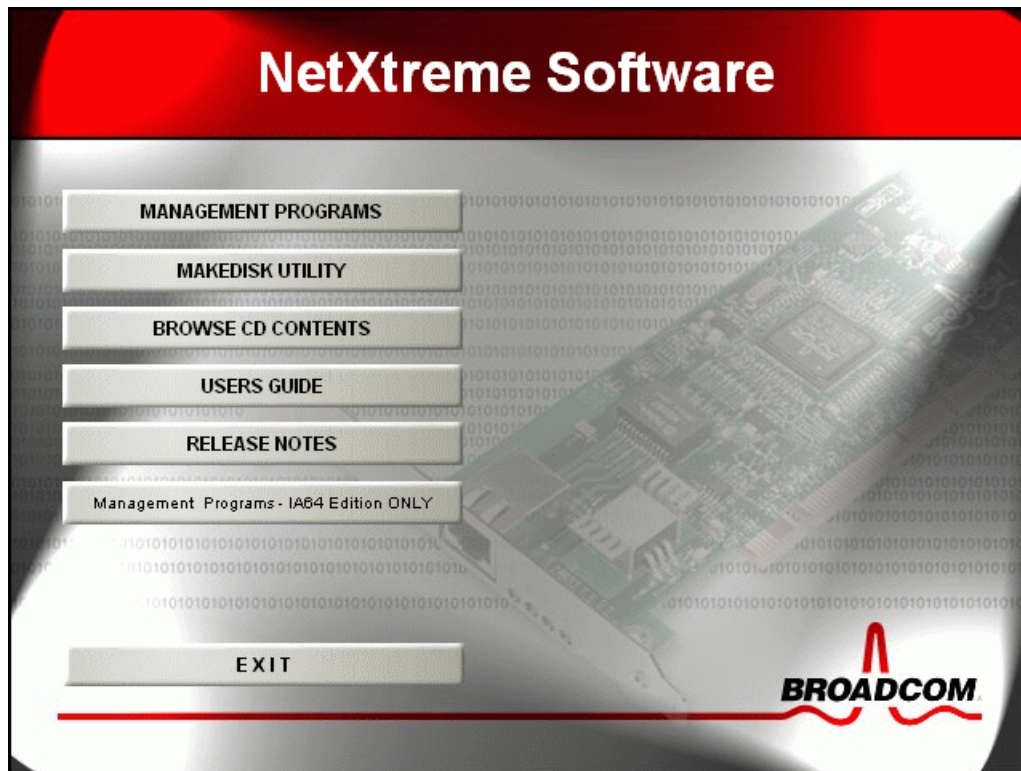

Figure 6-10 Broadcom selection window
1. Navigate to the location where the Broadcom Advanced Control Suite application files were extracted (default C:\Drivers\BcomXXX, where XXX is the code level). Execute Launch.exe. You will see a window similar to the one shown in Figure 6-10 on page 96.